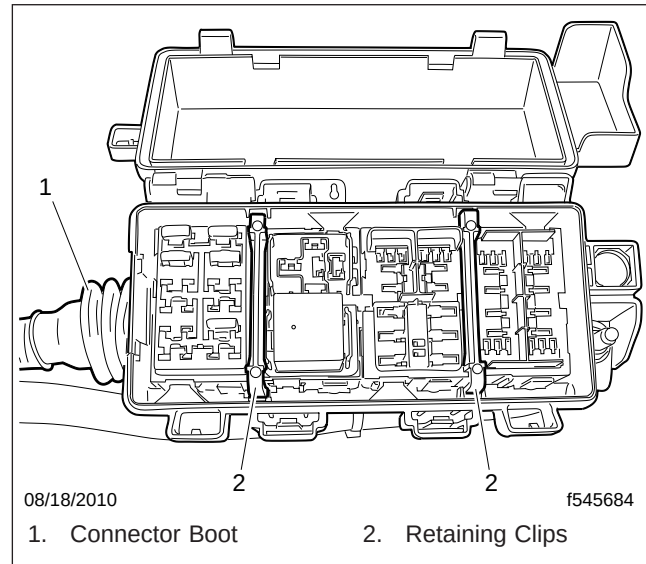

Fig. 5, EPA10 PDM
3. Open the cover and remove the two retaining clips. See Fig. 5.